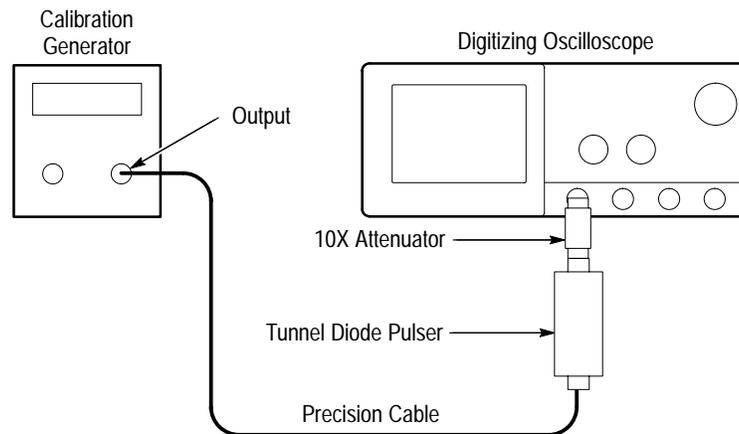

Figure 5-8: Initial test hookup
- Connect the high-amplitude output of a calibration generator, through a 50  $\Omega$  precision cable, to the input of a tunnel diode pulser. See Figure 5-8.